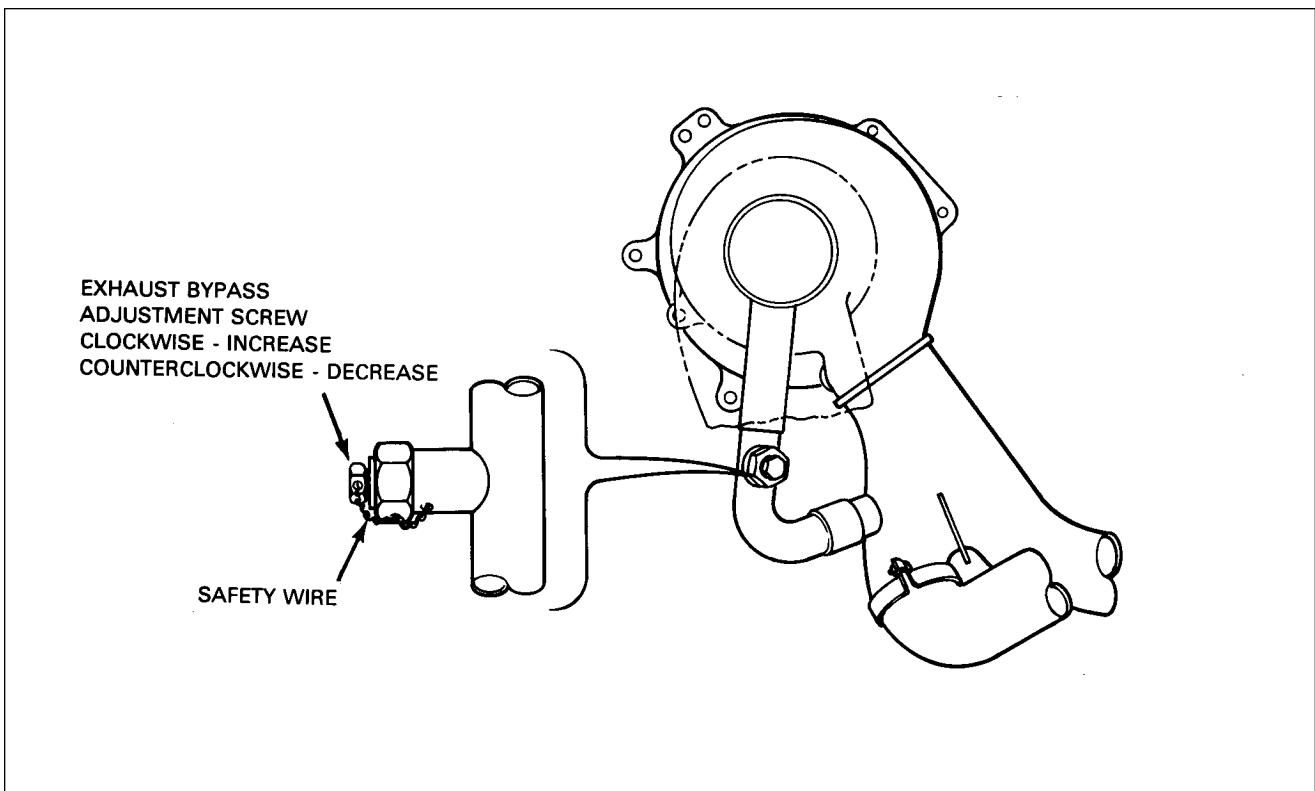

Figure 76-2. Exhaust Bypass Screw
2. Exhaust Bypass Check: Ascertain that the exhaust bypass adjusting screw has from eight to nine threads showing below the jam nut. This screw is preset at the factory and should not require any adjustment, unless it is known that critical altitude is not correct; in this case, use procedure given in Step 11. (Refer to Figure 76-2.)